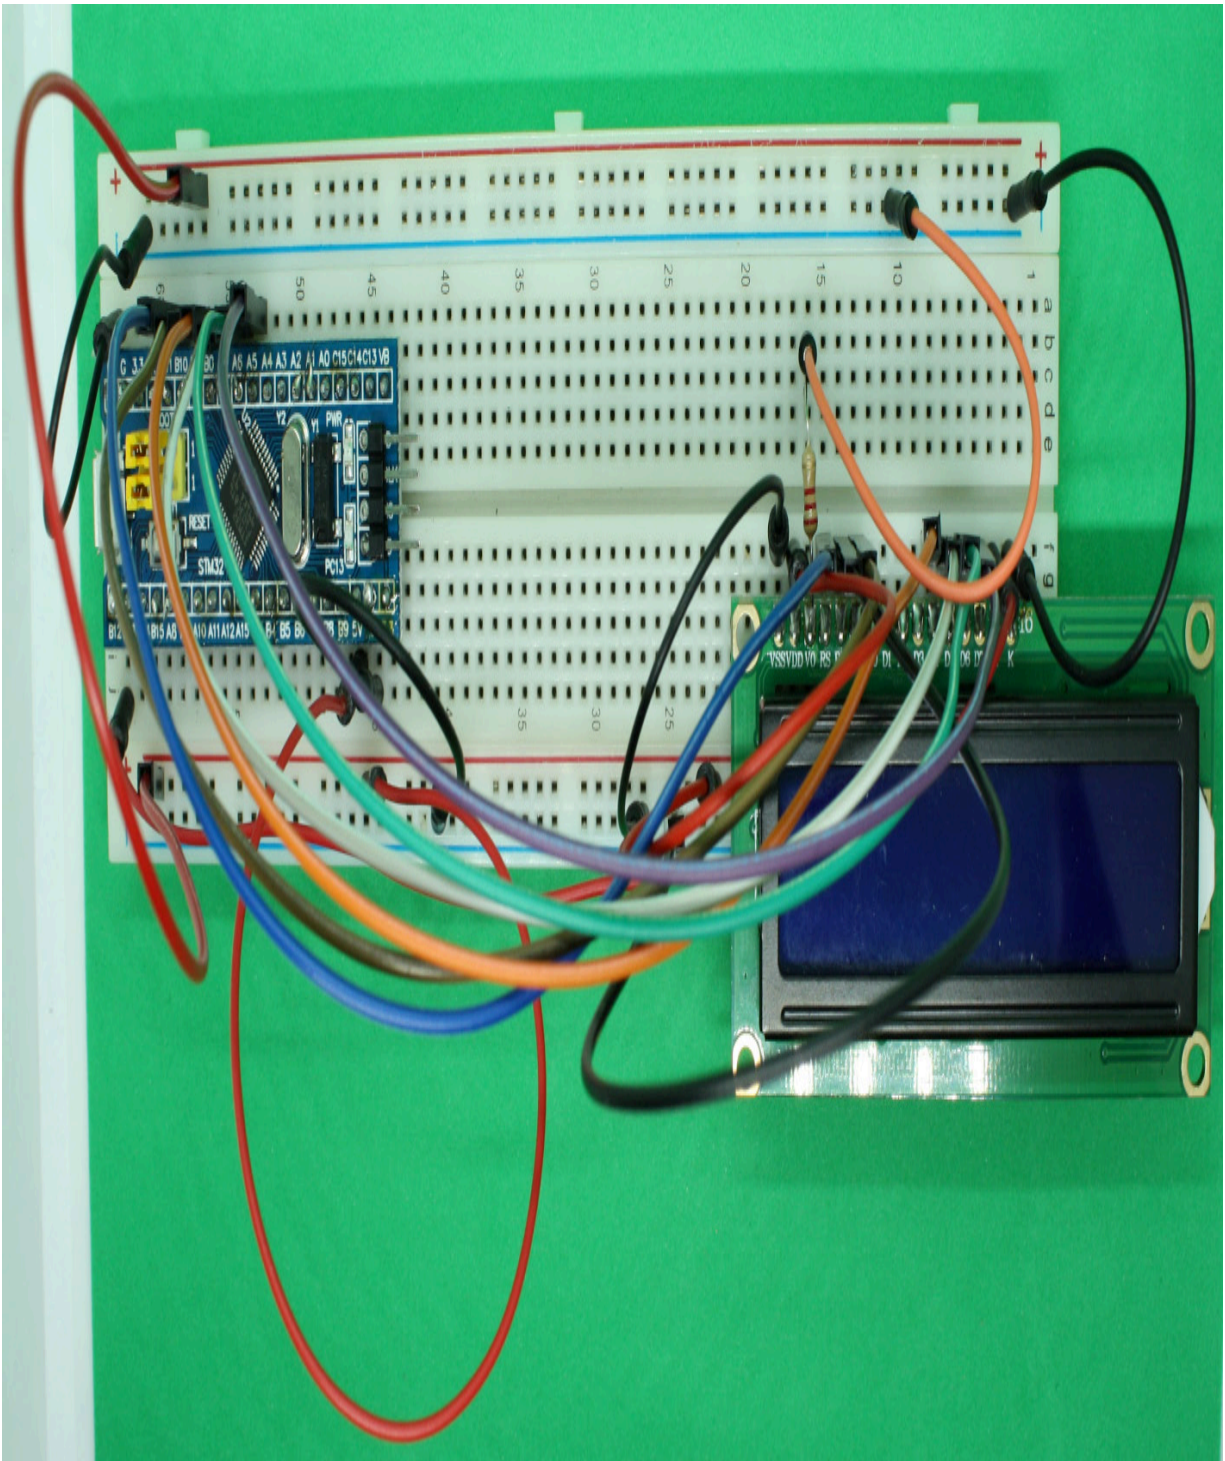

Figure 14.2 – The Blue Pill microcontroller board connected to the LCD
*Figure 14.2* shows how everything is connected:
As you can see from *Figure 14.2*, the 1602A LCD is easy to connect to the Blue Pill. The 2.2k ohm connected to the LCD's pin **V0** sets up